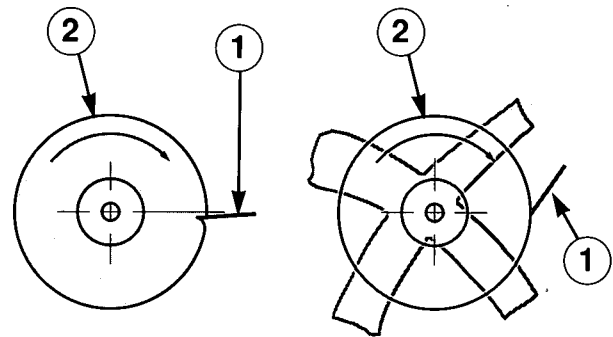

Figure 59 — Correct position for knife during buffing.
For safety reasons, use a knife holding clamp for crosscut knives (see "Tools", page 69). Slicing knives can be hand held; be cautious and use a firm grip. Hold the knife or knife clamp firmly with the bevel side up, parallel with and just below the center line of the shaft of the buffer (Figure 59). Push the knife edge into the buffing wheel, penetrating the wheel 1/16"-1/8" (1.5-3 mm). Move the knife endwise and buff the entire edge. Do not hold the knife in one area of the buffing wheel too long as the edge may heat and burn.
2. Knives must be correctly held against the buffing wheel (Figure 59).